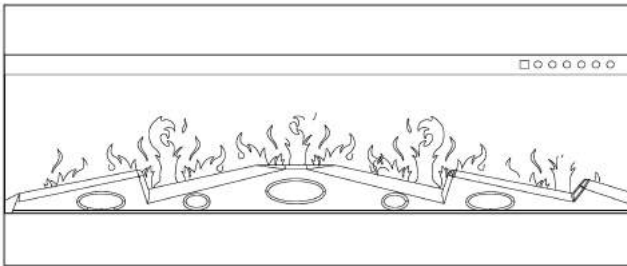

Figure 1
C. Place unit face down on a soft, non abrasive surface. Remove the bracket from the back of the unit by removing the screws, refer to Figure 1.